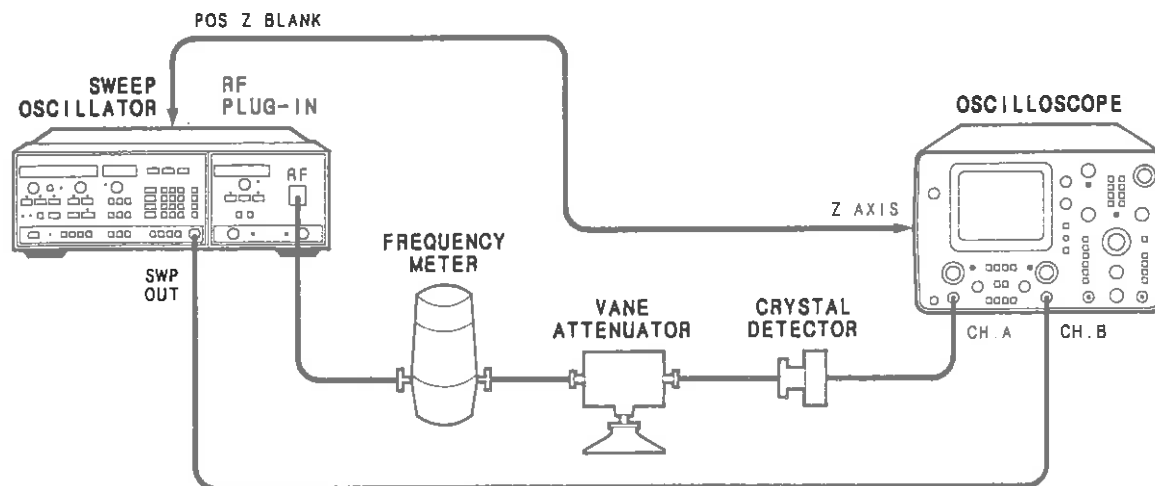

Figure 4-2. Swept Frequency Accuracy Test Setup
- Connect the equipment as shown in figure 4-2. Set the vane attenuator to 15 dB.